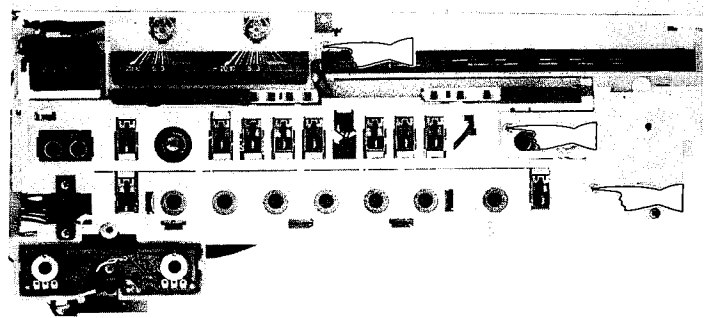

Figure 7-3
3. Remove three screws at the tuner frame, and detach the frame while shifting it to right. See Fig. 7-3.